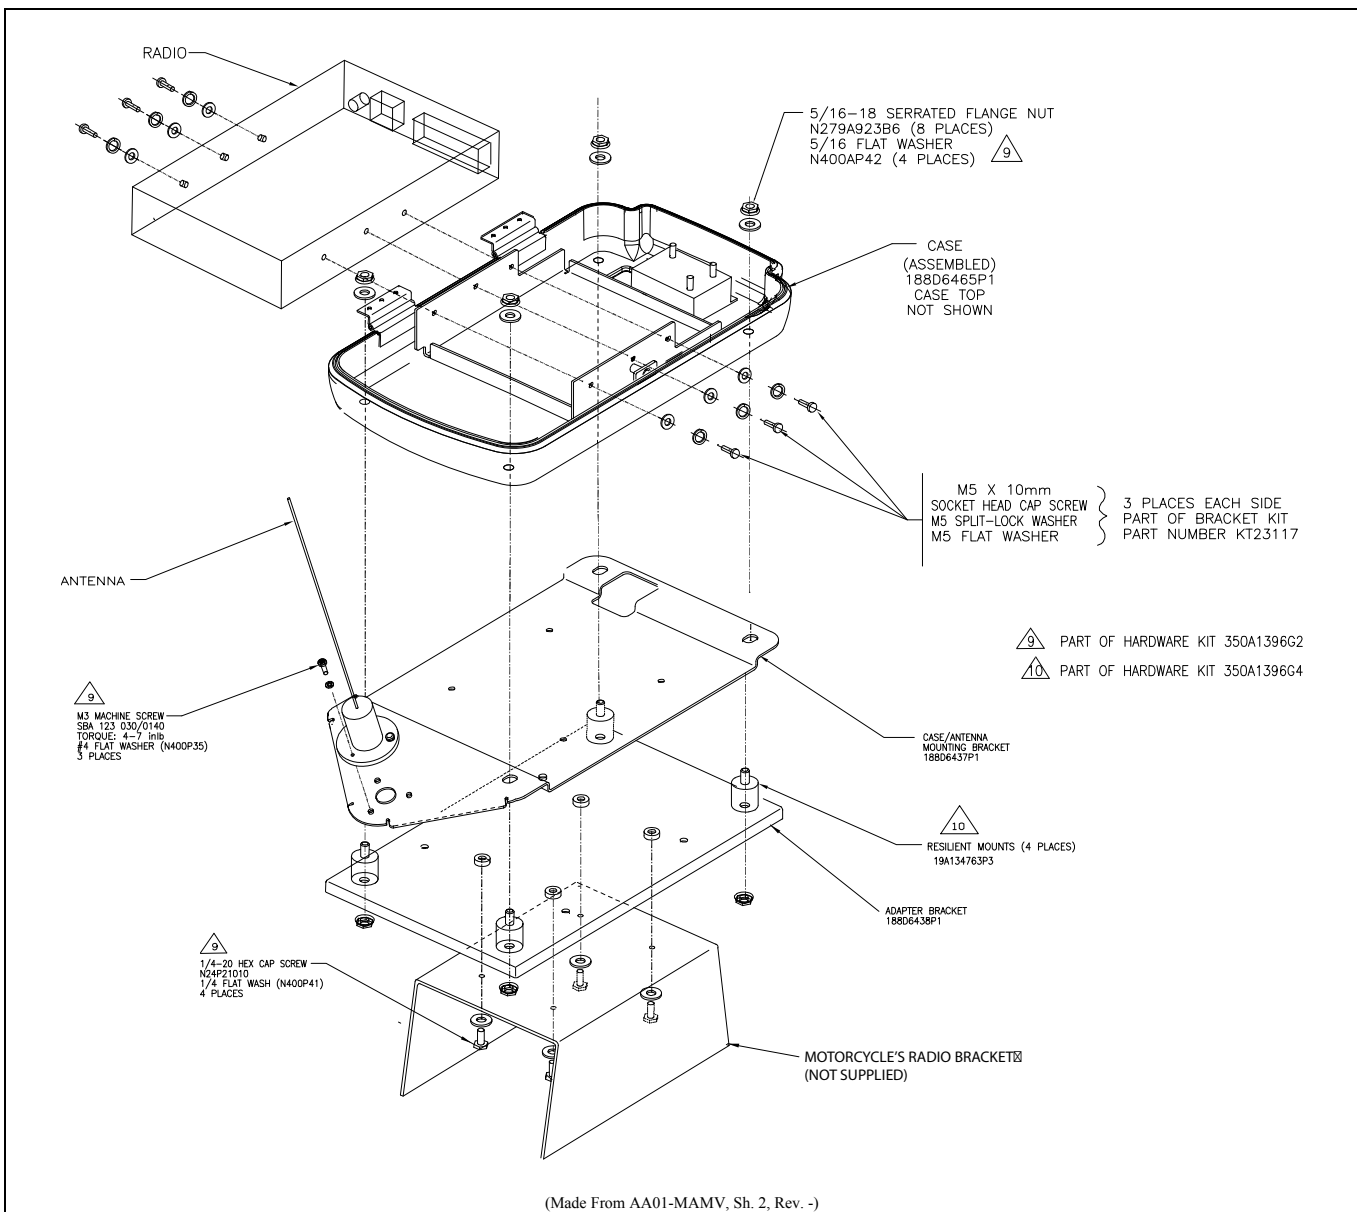
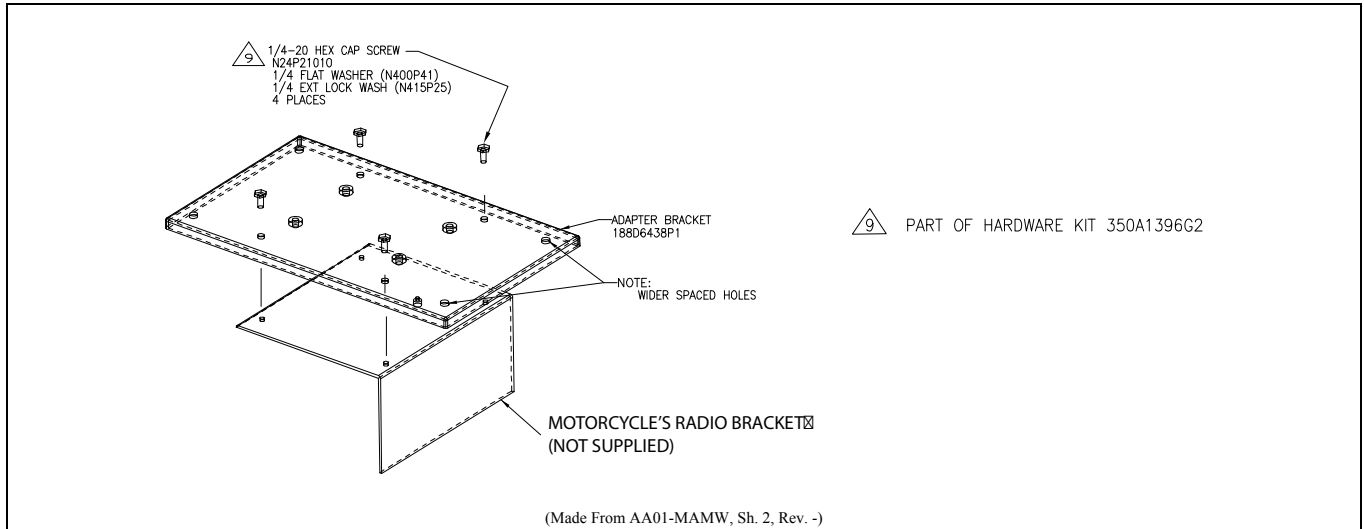

Figure 6-1: Assembling, Mounting and Installing the Radio Case and Brackets
Figure 6-2: Alternate Mounting for Adapter Bracket
2. Obtain the four (4) resilient mounts in Motorcycle Adapter Bracket Mounting Kit 350A1396G4 (Item 7 in Table 4-2).
3. As illustrated in Figure 6-1, attach a resilient mount to each corner of the bracket using four of the eight $\frac{5}{16}$ -inch serrated nuts included in Hardware Kit 350A1396G2 (Item 6 in Table 4-2). Use each mount's shortest stub. Tighten these four (4) nuts securely. A torque of approximately 100 in.-lbs. (11.3 N.m.) is recommended.
4. Using Figure 6-1 and/or Figure 6-2 as a guide, securely attach the Adapter Bracket to the motorcycle's radio bracket. Use the $\frac{1}{4}$ -20 x $\frac{5}{8}$ -inch-long bolts ("hex cap screws") and $\frac{1}{4}$ -inch flatwashers included in Hardware Kit 350A1396G2.
Some motorcycle radio brackets have pre-drilled holes that will match the four (4) PEM nuts in the Adapter Bracket. In this case, as illustrated in Figure 6-1, use a $\frac{1}{4}$ -inch flatwasher with each $\frac{1}{4}$ -20 bolt and first pass each bolt through the bracket hole, then into the respective PEM nut in the Adapter Bracket.
Other motorcycle radio brackets have pre-installed PEM nuts that match holes (without PEM nuts) in the Adapter Bracket. In this case, as illustrated in Figure 6-2, use $\frac{1}{4}$ -inch washers with each $\frac{1}{4}$ -20 bolt and first pass each bolt through the respective hole in the Adapter Bracket, then into the respective PEM nut in the motorcycle's radio bracket.
5. As illustrated in Figure 6-1, place the case over the Case/Antenna Bracket, and onto the $\frac{5}{16}$ -inch studs, passing the studs through the holes in the floor of the case. The square hole in the bottom floor of the case must be towards the front of the motorcycle, so it is directly over the square hole in the Case/Antenna Bracket.
2. Attach the radio to the bracket using the six (6) M5 x 10 mm stainless-steel socket-head screws, and flatwashers and lockwashers included with the Remote-Mount Radio Mounting Bracket Kit KT23117 (item 4 in Table 4-2). See Figure 6-1.